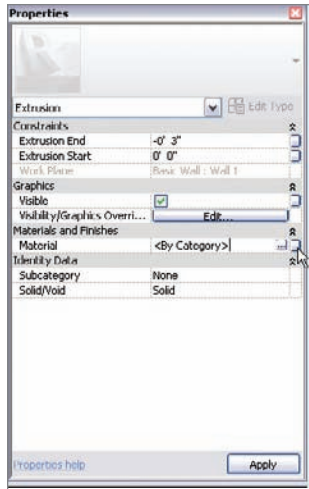

FIGURE 17.19 Clicking the button to add a material parameter
14. In the Properties dialog, make sure the type is set to Extrusion, as shown in Figure 17.19.
15. Set Extrusion End to -3”, as shown in Figure 17.19.
16. Click the small button to the right of the Material row, as shown in Figure 17.19.